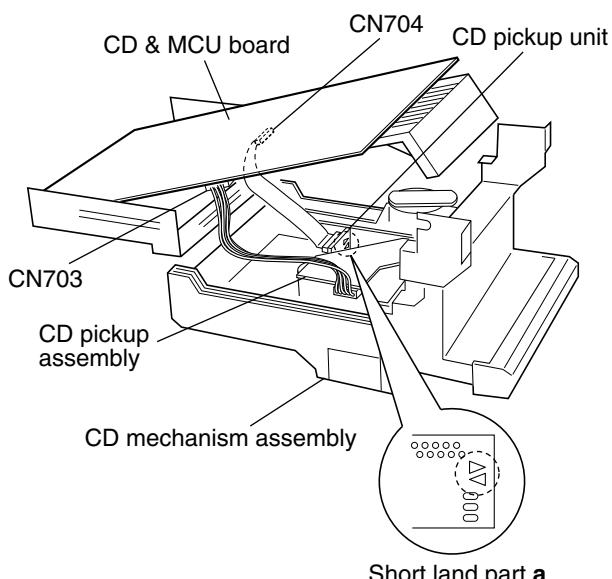

Fig.2
4. Lift the CD & MCU board and attach solder to the short land part **a** on the CD pickup assembly. (See Fig.2.)
5. Disconnect the card wire from the connector CN704 on the CD & MCU board, and take out the CD & MCU board. (See Fig.2.)
[Cautions] • Be sure to solder the short land part **a** on the CD pickup unit before disconnecting the card wire from the CD pickup unit. (See Fig. 2.)